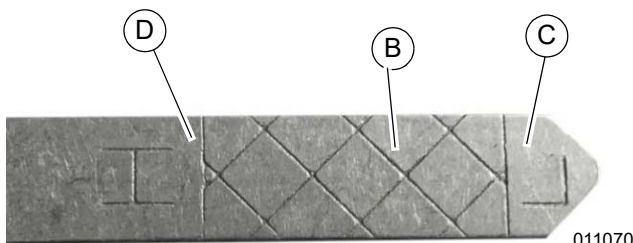

Figure 2-21. Oil Fill Line
- See **Figure 2-21**. Continue adding a few ounces at a time, checking the oil dipstick/fill cap until oil level is in hatched area (B) between the bottom of the oil dipstick/fill cap (C) and H(igh) mark (D). **Do not overfill.**